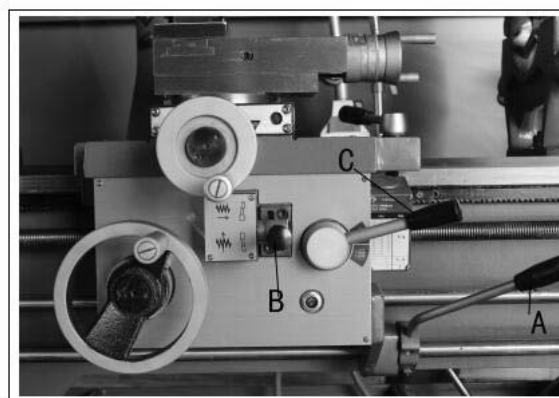

Figure 20
1. Move the forward/reverse selector (A, Fig. 20) up or down depending on desired direction.
1. Push lever (B, Fig. 20) to the left and down to engage crossfeed.
1. Set forward/reverse lever (A, Fig. 20) up or down depending on the desired direction.
4. Engage the half nut lever (C, Fig. 20).